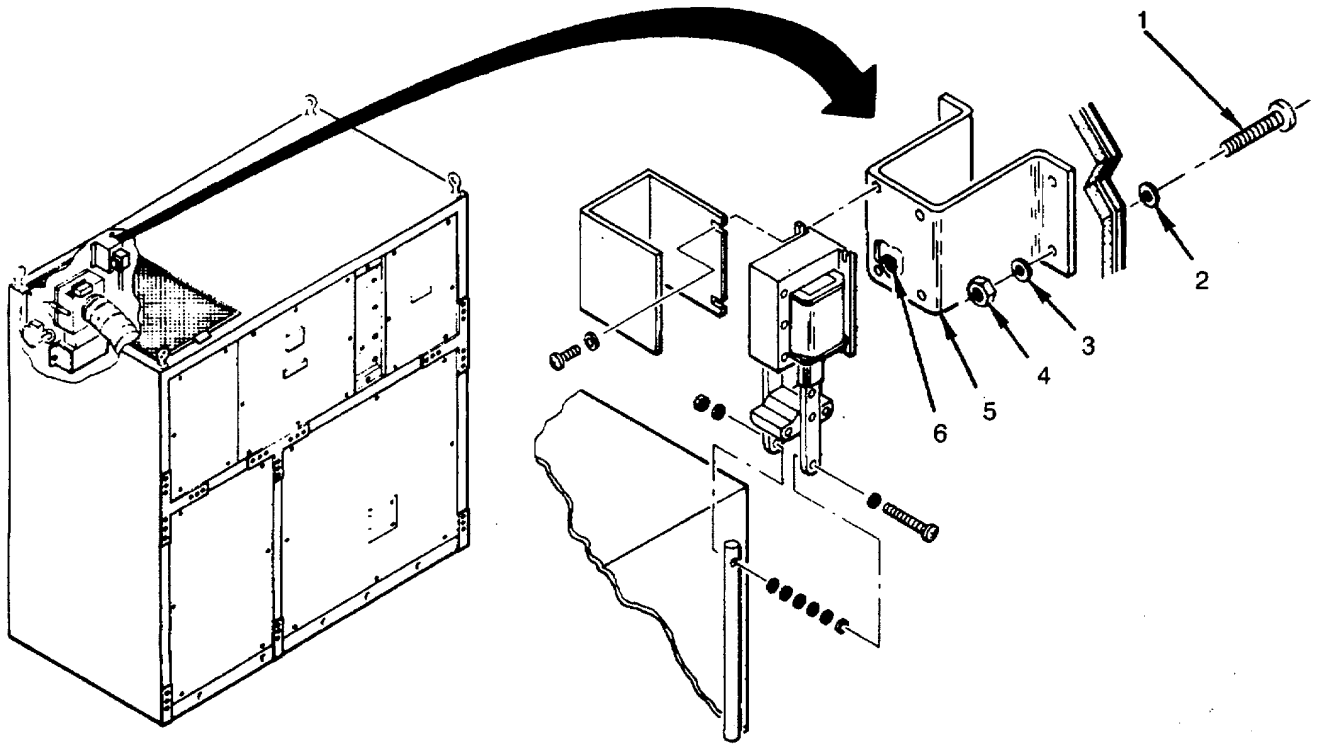

Figure 6-4. Fresh Air Damper Operator Bracket
1. Check that bracket (5) is not bent, cracked, or punctured. Replace bracket, if defective (see Figure 6-4).